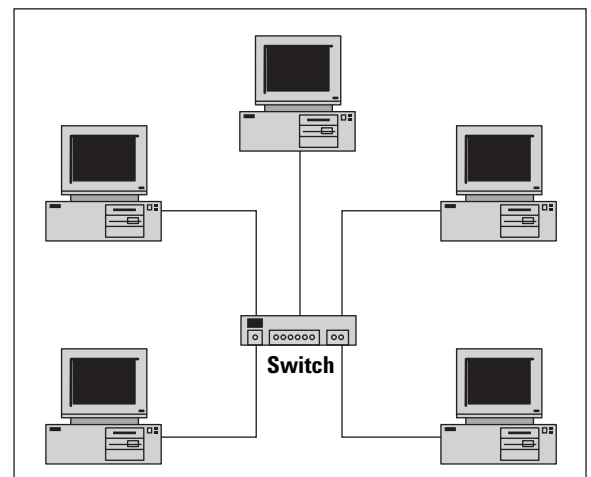

Figure 3. A simple network with one switch and multiple PCs in a star topology.
- Hub – A small, standalone unit that connects multiple devices together, usually in what’s called a “star” topology (Figure 3). In this configuration, any device can discover and talk to any other device on the LAN. Hubs use a broadcast model to transmit data, a method that reduces the effective bandwidth (or data rate) when network traffic is heavy.